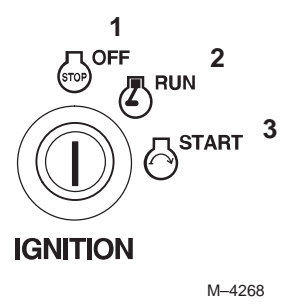

Figure 15
6. Turn ignition key to start to energize starter. When engine starts, release key (Fig. 15).
3. Let the engine idle for 60 seconds (Fig. 15).
4. Turn the ignition key to off (Fig. 15).